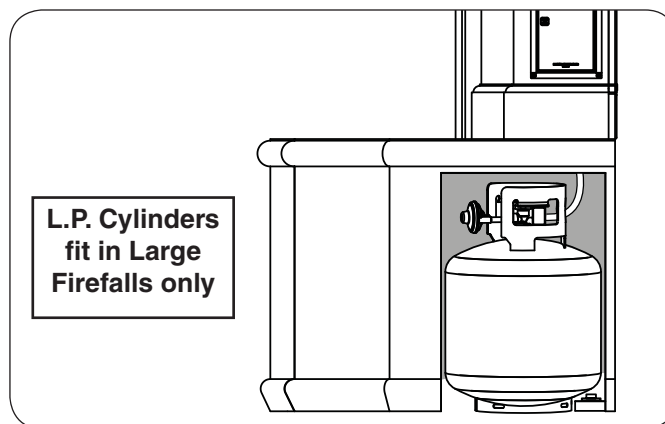

Fig. 20-4 L.P. Cylinder placement
- The propane cylinder (not included) is to be located inside the hearth, via the storage door opening (see Fig. 20-4).